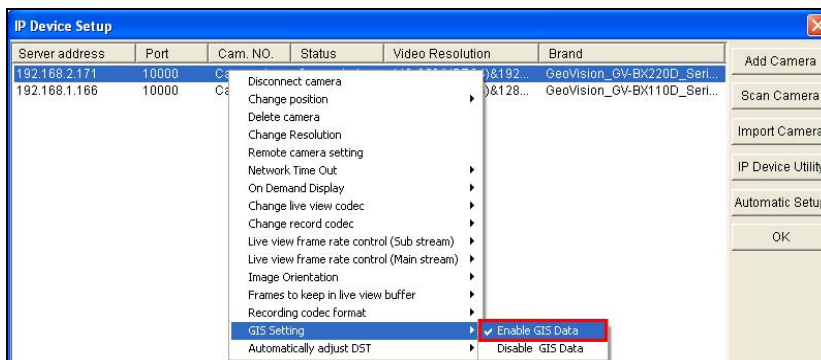

Figure 11-83
- Ensure **Enable GIS Data** is enabled for desired IP devices to receive the GPS data from those IP devices (Figure 11-83).